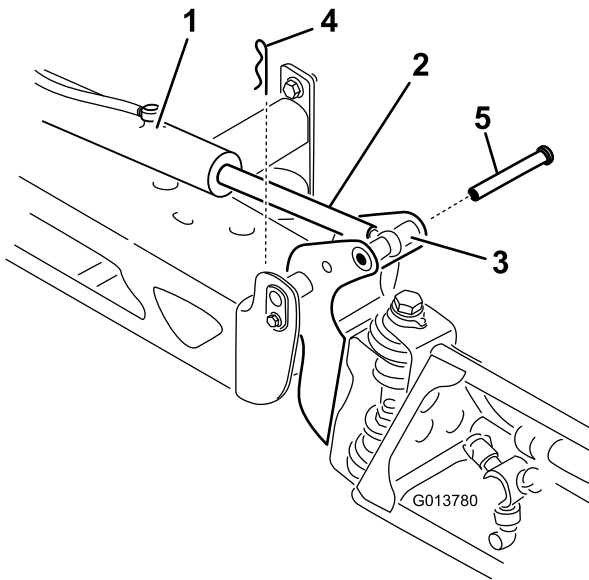

Figure 37
2. Remove the cotter pin from the pivot pin (Figure 37).
3. Lift up on the boom and remove the pin (Figure 37). Slowly lower the boom to the ground.
6. Lift up on the boom to align the pivot with the actuator rod. While holding the boom, insert the pin through both boom pivot and actuator rod (Figure 37).